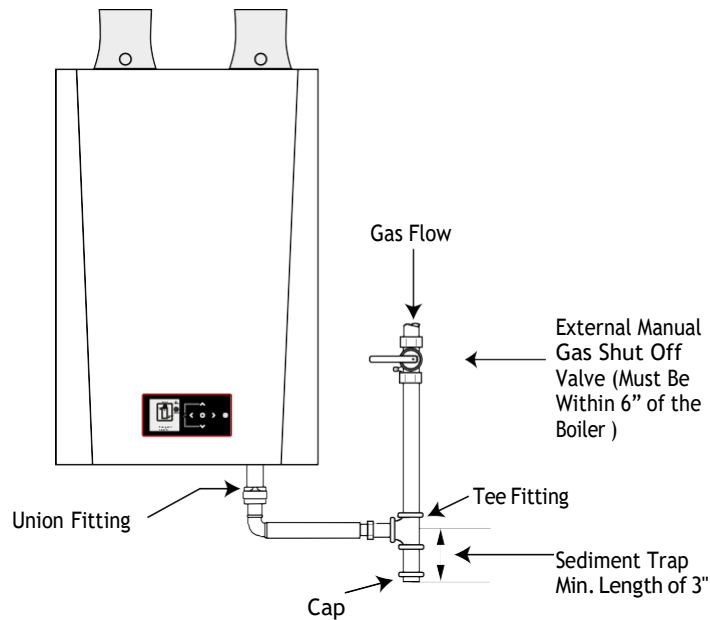

Fig. 15 - Recommended Gas Supply Piping
2. Install a manual shutoff valve in the gas supply piping as shown in Fig. 15 above. For installations in Canada, the installer must tag and identify the main shutoff valve.
3. Install a sediment trap (drip leg) on the gas supply line prior to connecting to the INSTINCT gas train as shown in Fig. 15 above.